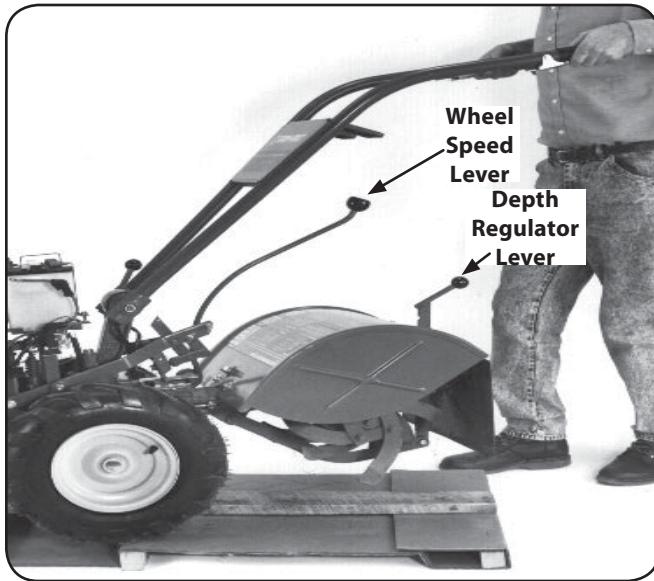

Figure 3-2
1. Set the Depth Regulator Lever to travel position. Do this by lifting the tiller by the handlebars, then pulling straight back on the lever and sliding down to the highest notched setting. See Fig. 3-2.
2. Set the Wheel Speed Lever to the Freewheel position. To do this, move the lever approximately halfway between the Fast and Slow settings while you rock the tiller forward and backward until the wheels move freely. See Fig. 3-2